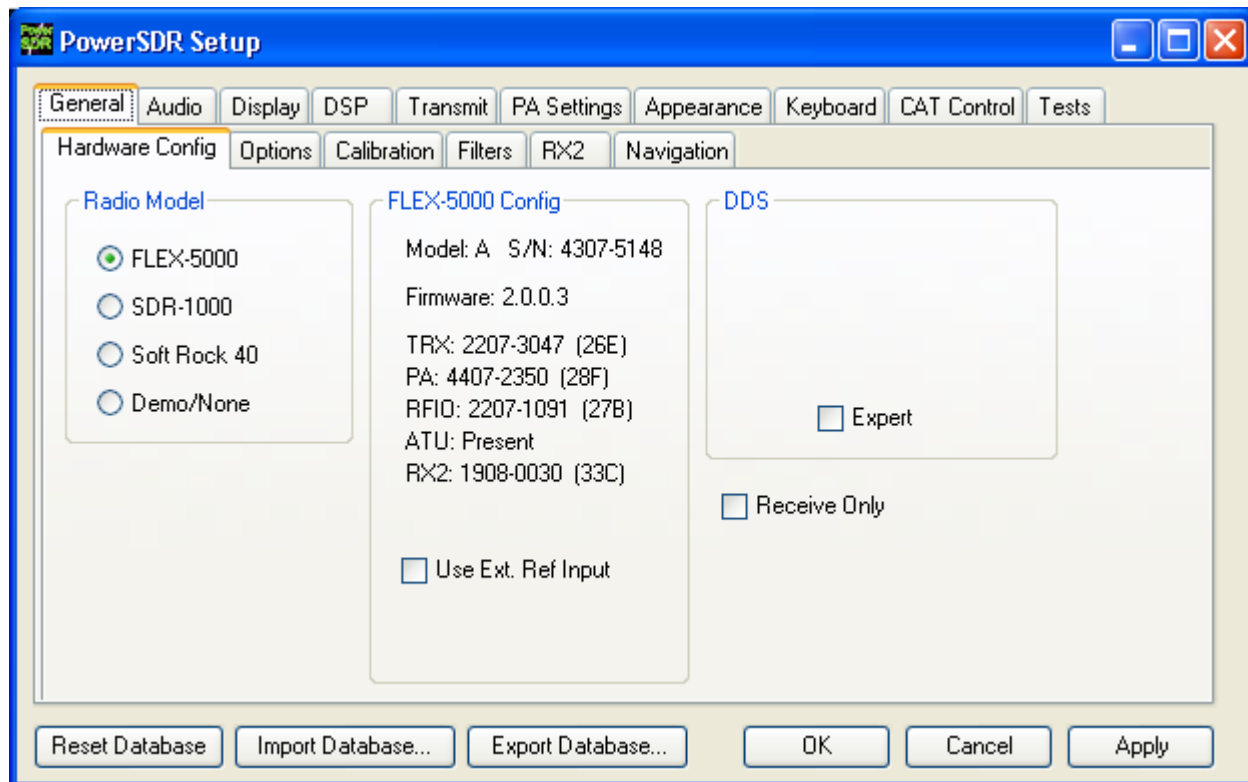

Figure 93: Setup Form - General Tab, Hardware Config Sub-Tab
¹ Earlier versions of the FLEX-5000, with the HRFIO board Assembly Number (ASSY) 27 installed instead of the later HRFIO board ASSY 34, do not have ANT1 available as an option for Receiver 2. You can check which board is installed in your FLEX-5000 by opening the Setup Form – General Tab, Hardware Config Sub-Tab, in the section marked FLEX-5000 Config. The Assembly Number is shown between brackets at the end of the line beginning with RFIO (see e.g. Figure 93 on page 126). Also see the Knowledge Center articles HRFIO Capabilities by Assembly Number, How to Identify the HRFIO Assembly Number and Antenna Selection Options for the RX2 (or search for HRFIO in our Knowledge Center at <http://kc.flex-radio.com/search.aspx>). If you have the earlier HRFIO ASSY 27, you can upgrade to ASSY 34. See the [Flex-Radio Systems website](http://www.flex-radio.com) (www.flex-radio.com) for more information.
- ☐ ATU and RX2, shown in Figure 93, will only be listed if indeed installed in the radio.